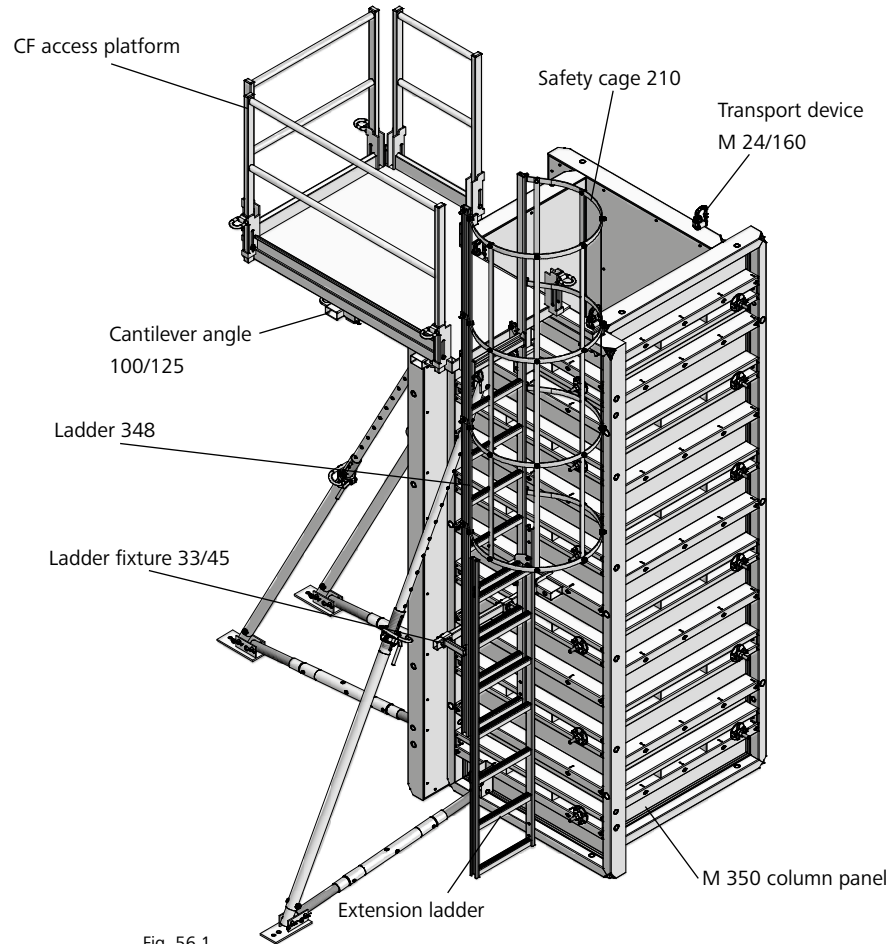

Fig. 56.1
The column formwork made up of M 350 column panels can be equipped with the CaroFalt (CF) access platform and ladder access to allow work to be performed safely at all heights (Fig. 56.1). It thus ensures work safety at all heights.